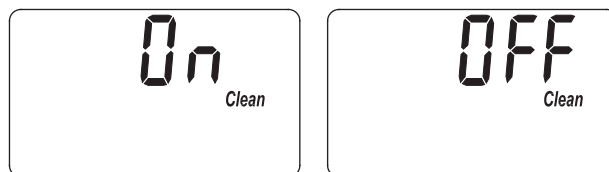

FIG. 28
1. Press and hold the PROGRAM button until the screen in Figure 27 is displayed. Once in this display, press the PROGRAM button twice and one of the two displays in Figure 28 is shown.